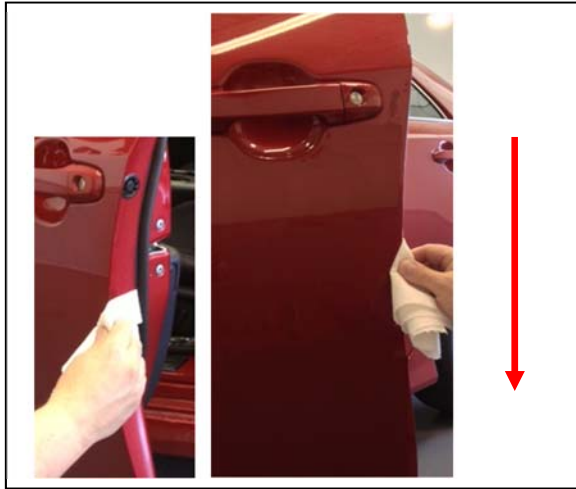

Fig. 1-2
(2) Using the second lint free cloth, thoroughly dry the area free of Simple Green (or VDC approved cleaner) previously applied. In some instances a rubber weather seal may be found – ensure to clean between the trailing edge and rubber seal (Fig. 1-2). Turn the cloth repeatedly to attain a dry surface.